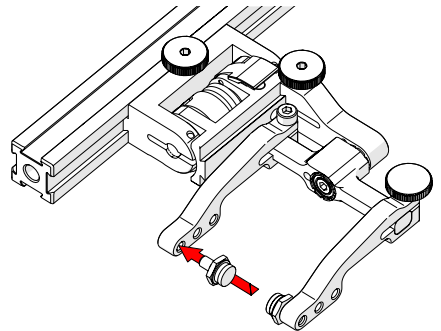

Fig. 47 - Place pivot buttons
- Using the supplied 3/8 in wrench (Fig. 16), place the pivot buttons as required (Fig. 47).